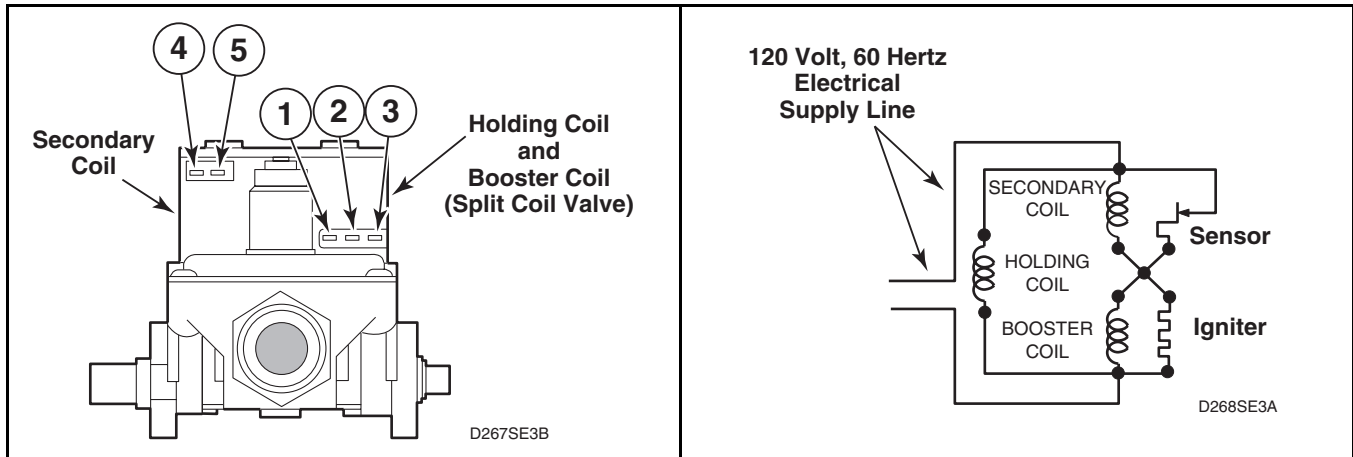

Figure 47
(Gas Models – Refer to *Figure 47.*)
- Set test meter to read AC voltage and apply meter probes into terminals on the dryer harness plug that would correspond to terminals "1" and "2" on the coil. *Figure 47*. Meter should register line voltage in all Fabric settings, except NO HEAT which should read "zero" VAC.